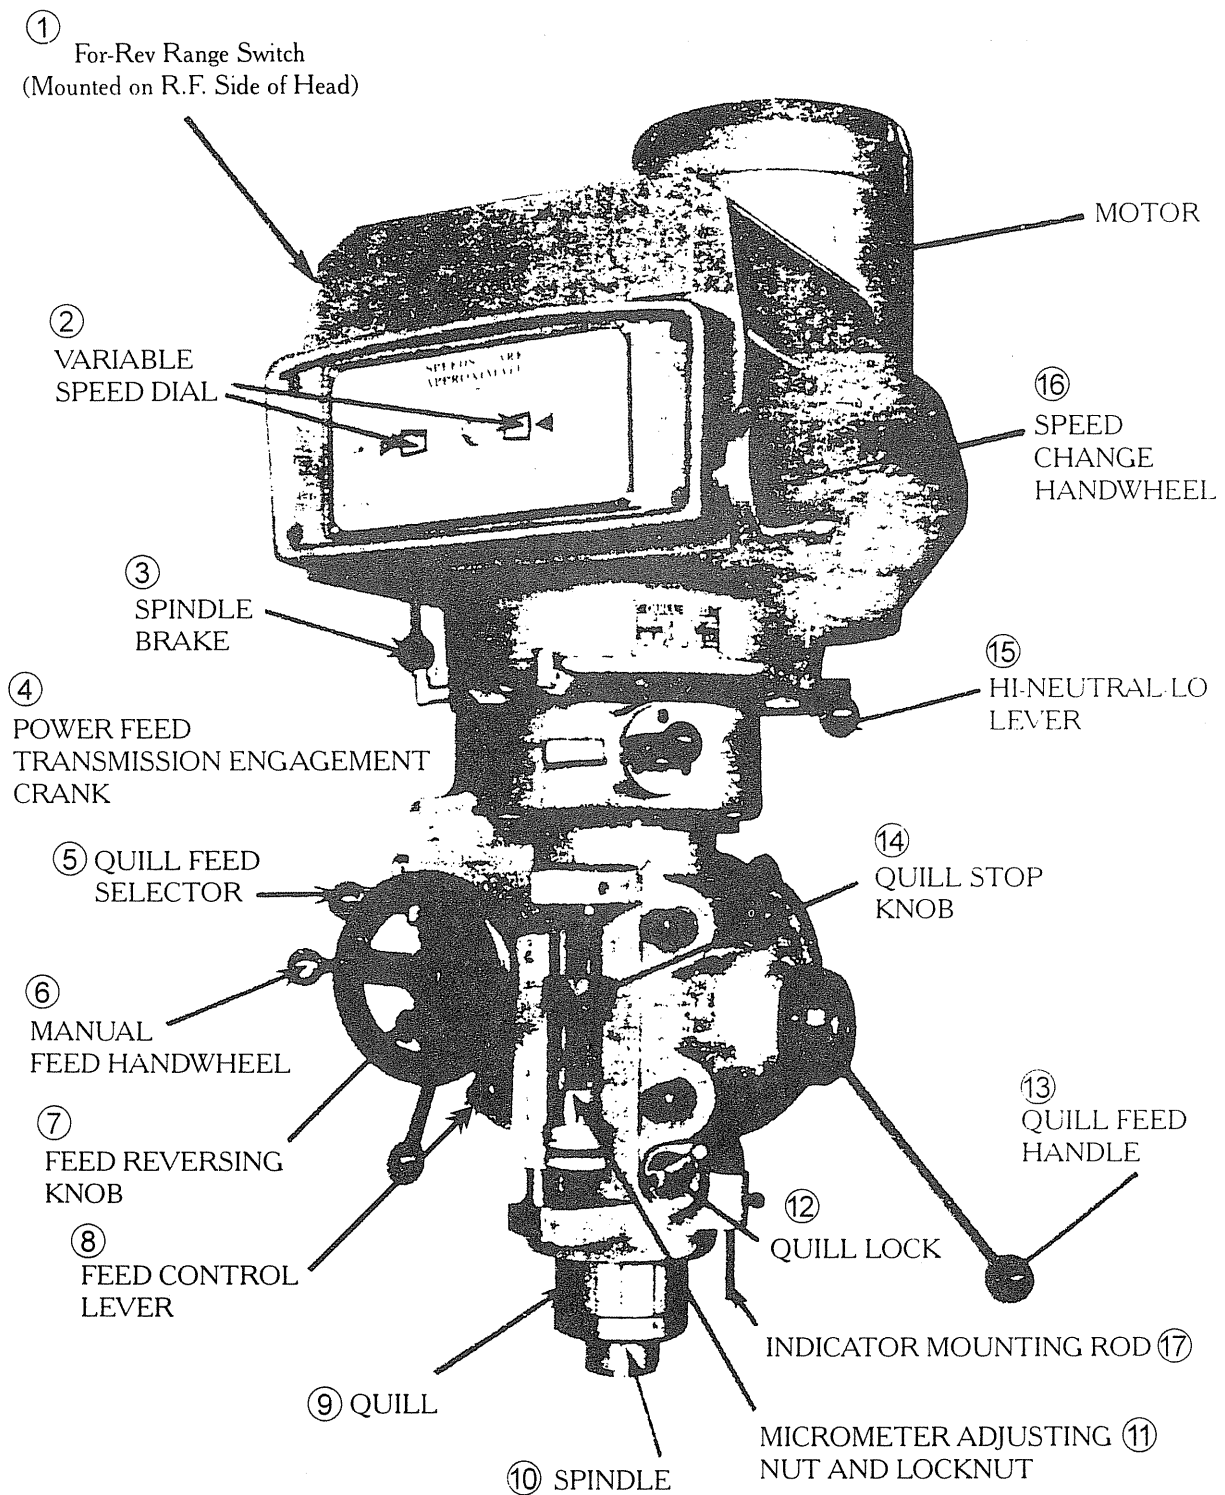
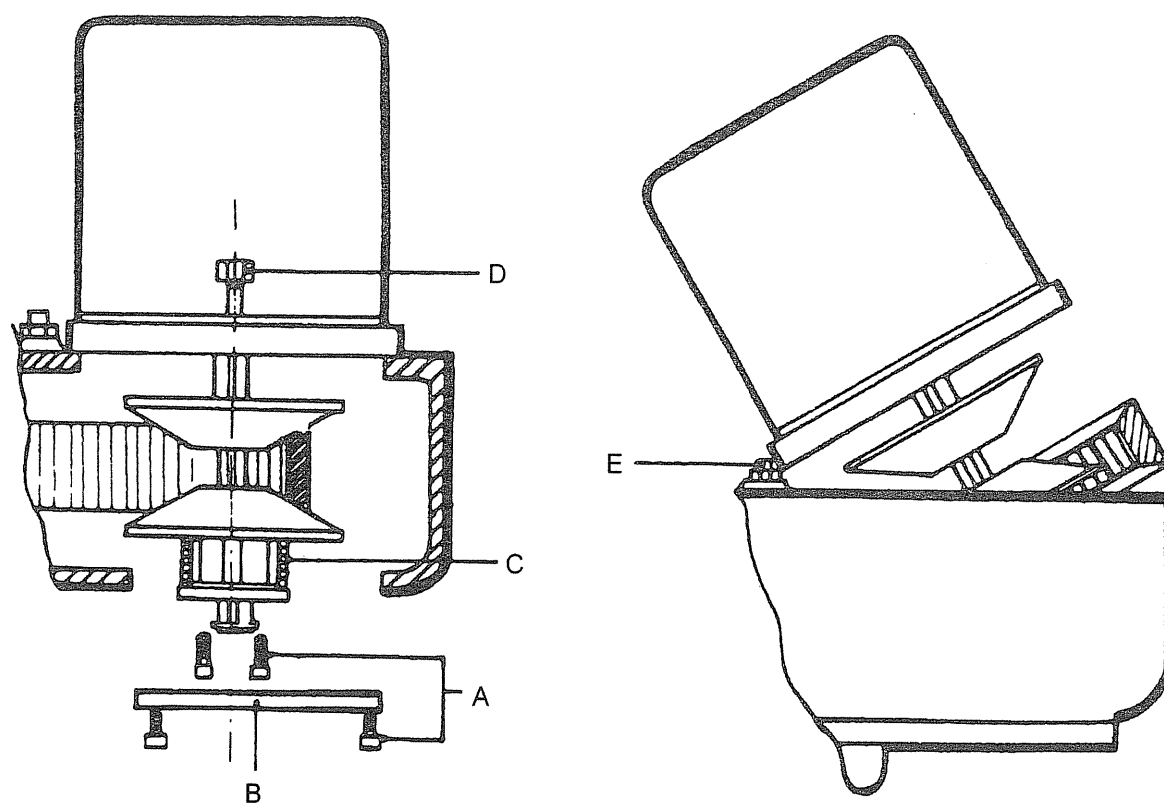
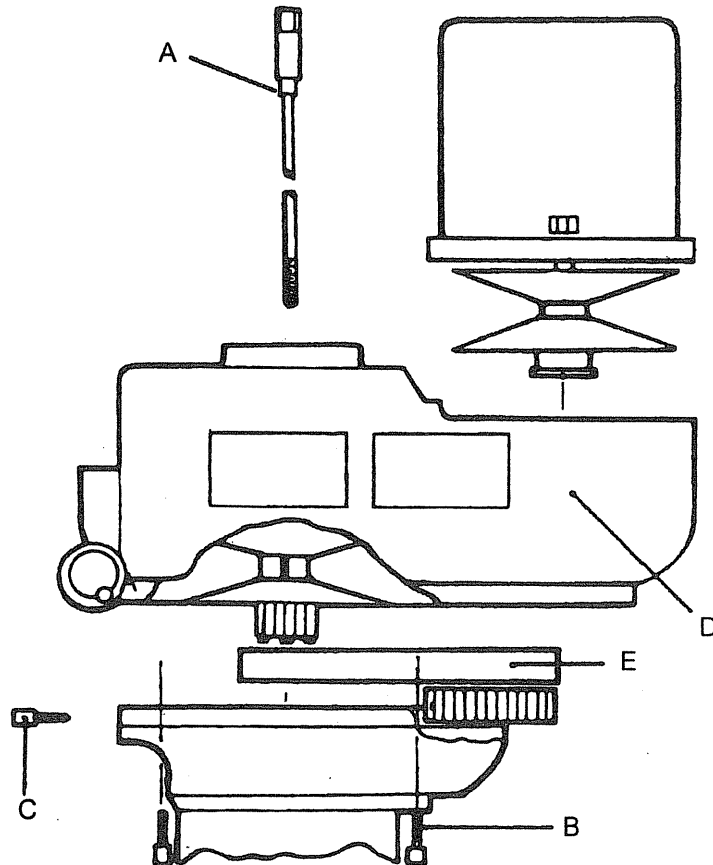

Figure 9. 2VSG 3VHG(4VK)Milling Aitachment
Figure 10. Removing the Motor (Side View)
Figure 12. Removing Timing Belt
### SPEED CHANCH HAND WHEEL (16, Figure 9) :
**SPINDLE BRAKE (#3, Figure 9) :**
**FORWARD-REVERSE SWITCH (#1, Fig. 9) :**
**HI-NEUTRAL-LO LEVER (#15, Fig. 9) :**
**POWER FEED ENGAGEMENT CRANK (#4, Fig. 9) :**
**QUILL FEED SELECTOR (#5, Fig. 9) :**
**FEED REVERSE KNOB (#7, Fig. 9) :**
**MANUAL FEED HANDWHEEL (#6, Fig. 9) :**
Feed reversing knob should be in neutral position and feed control lever (#8, Fig. 9) engaged. Clockwise rotation of handwheel moves quill down. Manual Feed Handwheel and quill feed handwheel may be disengaged by moving them out ward approximately 1/8".
**FEED CONTROL LEVER (#8, Fig. 9) :**
**QUILL FEED HANDLE (#13, Fig. 9) :**
**QUILL STOP KNOB (#14, Fig. 9) :**
**MICROMETER NUT (#11, Fig. 9) :**
**QUILL LOCK (#10, Fig. 9) :**
Wear on the vari-drive belt will cause a slight change in the speeds to that shown in windows (#16-2, page 37) on the dial. This can be corrected as follows. Crank the speed change handwheel (#16, Figure 9) snugly against the high speed stop. (This will be near the 4200 reading on the dial.) Use a tachometer to determine the spindle speed, then turn the pivot stud (#39, page 37), after loosening the jam nut (Item #96 page 37) until the spindle speed registers 4200 on the tachometer; tighten jam nut.
## REMOVING THE MOTOR (See Fig. 10) :
2. Remove the cover (#50-1, page 37) (B. Figure 10) at the lower end of the motor shaft. Use two cover screws (#50-2, page 37) (A) to fasten the spring (#8, page 37) (C) on the lower the motor shaft, to the lower motor vari-drive pulley (#45, page 37). This will reduce the hazard of personal injury that is always present when a heavy spring is under compression. When the pulley, spring retainer (#9, page 37) and spring are securely fastened as a single unit, crank the speed change handwheel (#16, Figure 9) to top speed position.
3. Now remove the screws (#111, page 37) (D) that faster the motor to the belt housing. The motor should be lifted slightly and pulled firmly away from the spindle and toward the rear of the belt housing. This will pull the vari-drive belt (#4, page 37) deeply into the spindle pulley (#44, page 37) providing the slack needed to ship the belt over the motor pulley (#45, page 37).
4. Now lift the motor high enough to rest the motor base GENTLY on the adjusting screw (#39, page 37) (E) seen directly in front of the motor flange. The belt can now be slipped over the lower pulley and the motor removed from the housing.
## CHANGING TIMING BELT (Figure 12)
Complete the operation for removing the motor. Then put the Hi-Neutral-Lo lever (#15, Figure 9) in the Lo position, remove the drawbar (#109, page 37) (A, Figure 12) and lower the spindle.